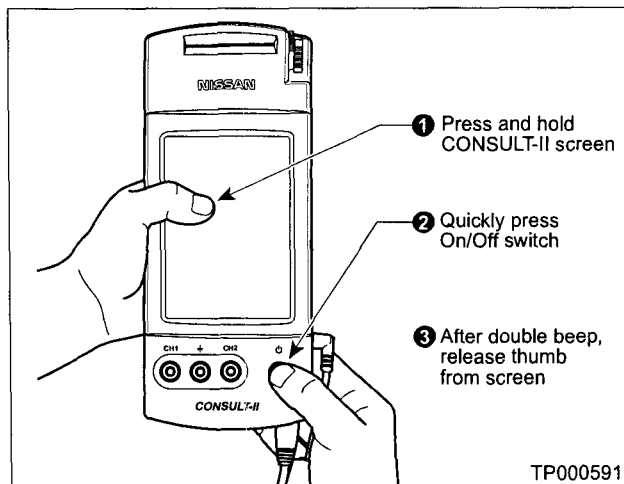

Figure 10
- A. While pressing on the CONSULT-II screen with your thumb, quickly depress and release the ON/OFF switch (see Figure 10).